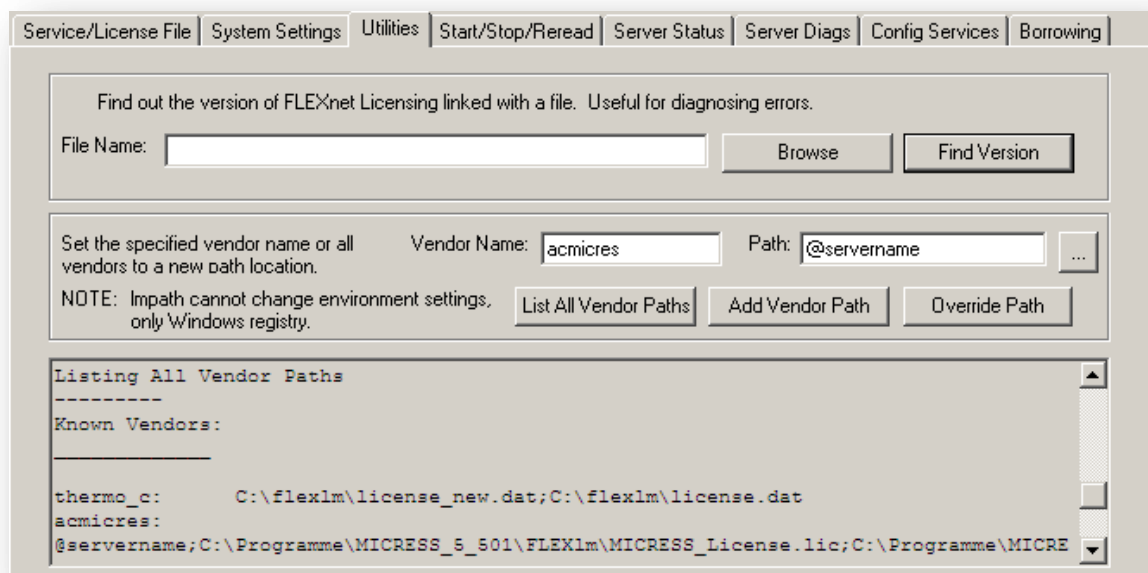
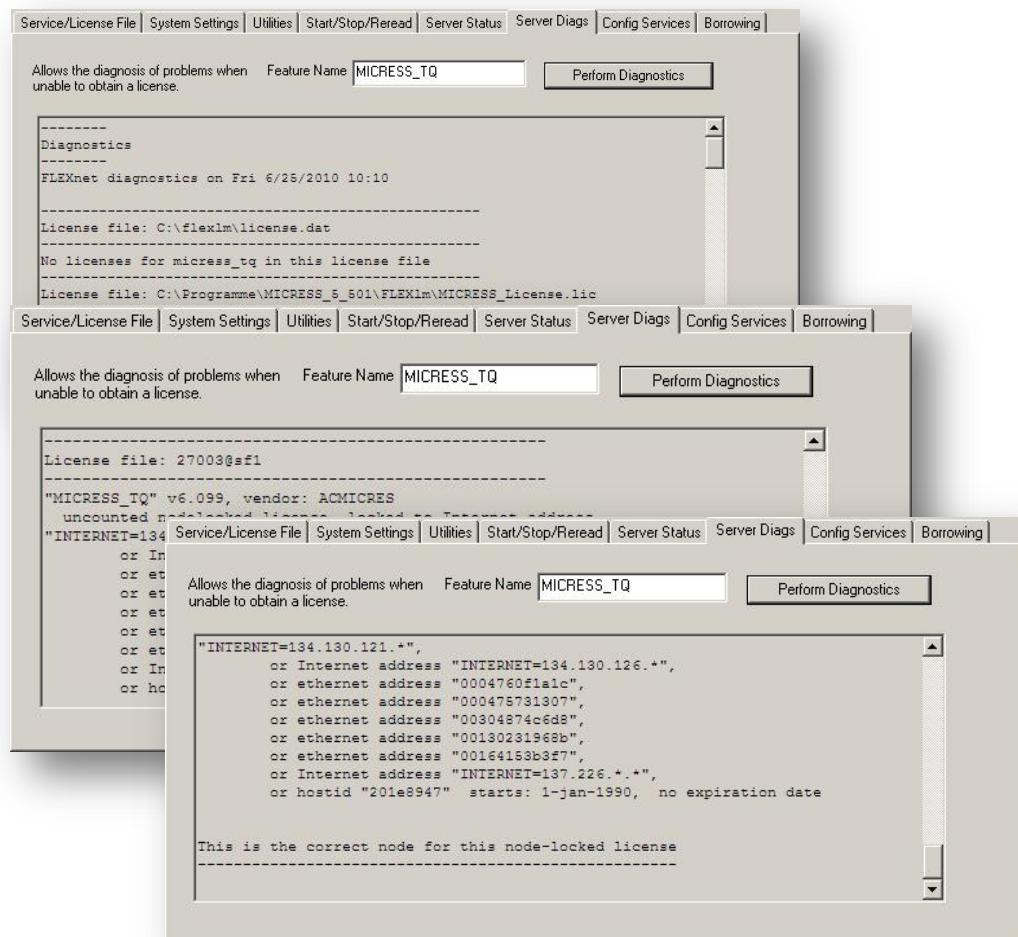

Figure 3.8 The vendor path operations, Utilities '
Figure 3.10.
- **Utilities:** the utilities menu, fig 3.8, provides a valuable tool for both the license server and also for hooking the clients to the license server.
(educational version), “MICRESS_TQ” in combination with TC-TQ (for TQ-coupled versions) and “MICRESS_Stress” in case the elastic module is included. The different paths to various license files (see also “utilities” menu in fig 3.8) are scanned for valid licenses for this particular feature. Availability of a valid license for the feature may thus be checked. All input is case sensitive. A typical output is shown in fig 3.10